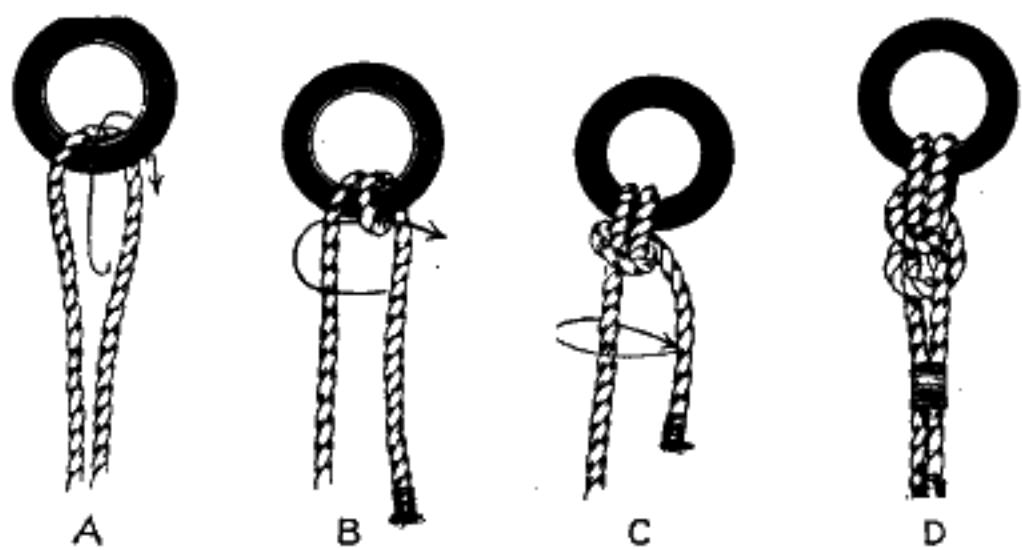

FIG. 332.—The anchor bend.
**393. The anchor bend** (Fig. 332) is particularly good for fastening a rope into a ring or clevis or around a beam. It is secure, does not draw tight like many other knots, and does not wear the rope excessively.